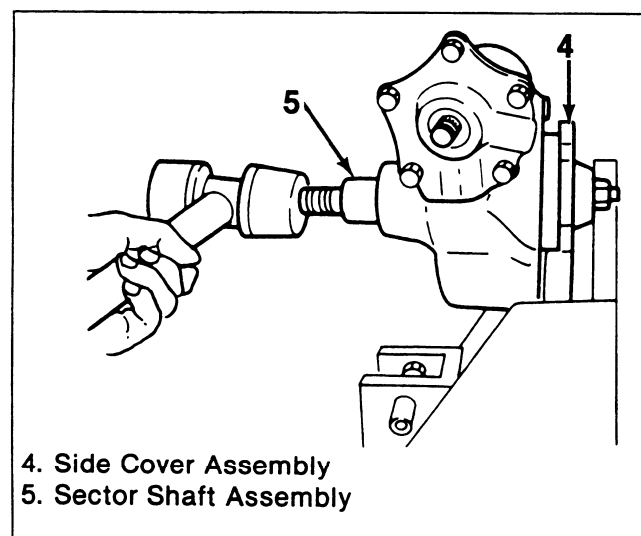

Figure 6. Sector Shaft and Cover Removal
- Turn the adjusting screw (7) counterclockwise slightly. Then remove the bolts from the side cover assembly (4).
- Then remove the side cover assembly (4) and sector shaft assembly (5) by tapping on the end of the sector shaft with a plastic hammer (figure 6).